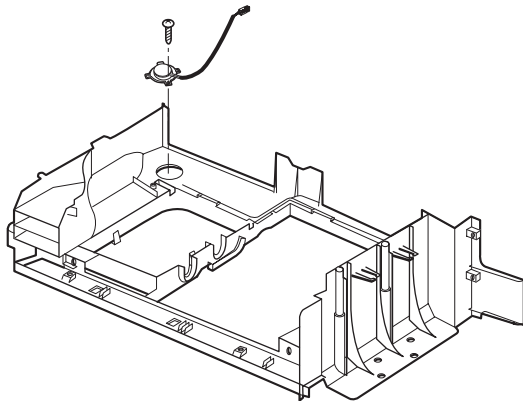

Figure 22
- (1) Remove the sensor by removing two screws in front of the lamp cover & removing one screw securing it to the air duct. (See Figure 22)
- (2) Mount the new humidity sensor to the air duct.